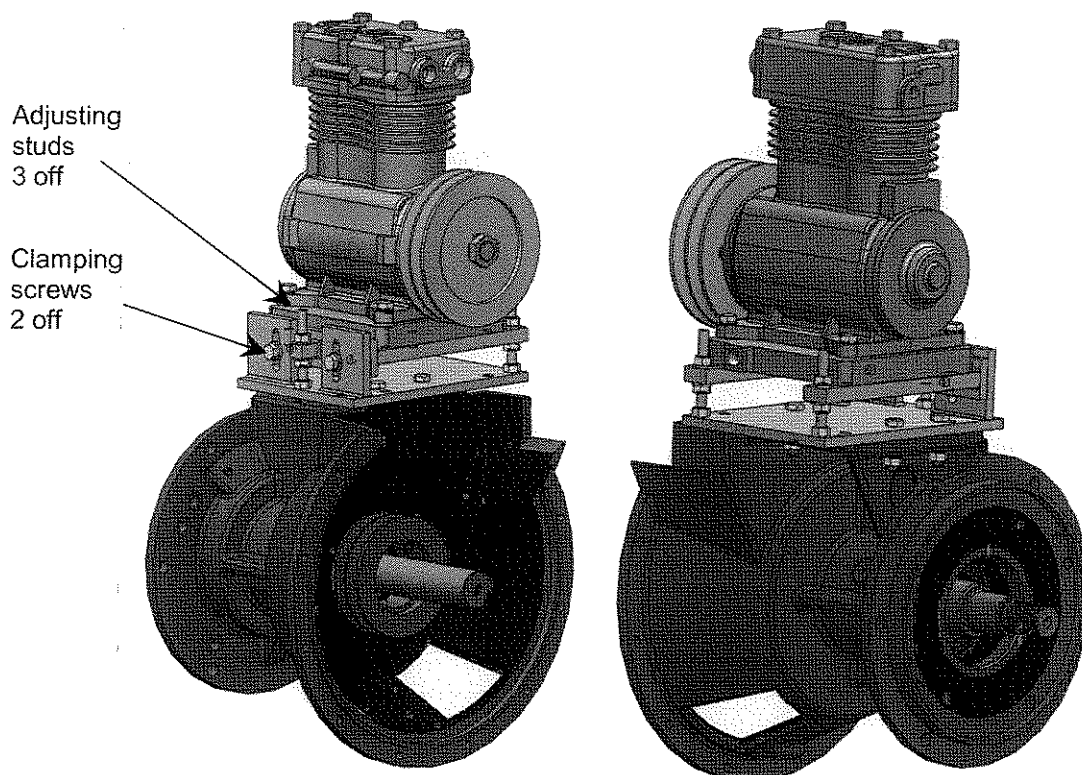

Figure 24 Link belt driven compressor (shown on a CD150 bearing bracket - guards and belt removed)
- 4) If adjustment is required, slacken the two clamping screws (see Figure 24) enough to allow the compressor carrying frame to slide on the supporting angle frame.
- 5) Slacken the 3 off adjusting stud nuts on top of the carrying frame (see Figure 24).
- 2) Slacken the two clamping screws (see Figure 24) enough to allow the compressor carrying frame to slide on the supporting angle frame.
- 3) Slacken the 3 off adjusting stud nuts on top of the carrying frame (see Figure 24).